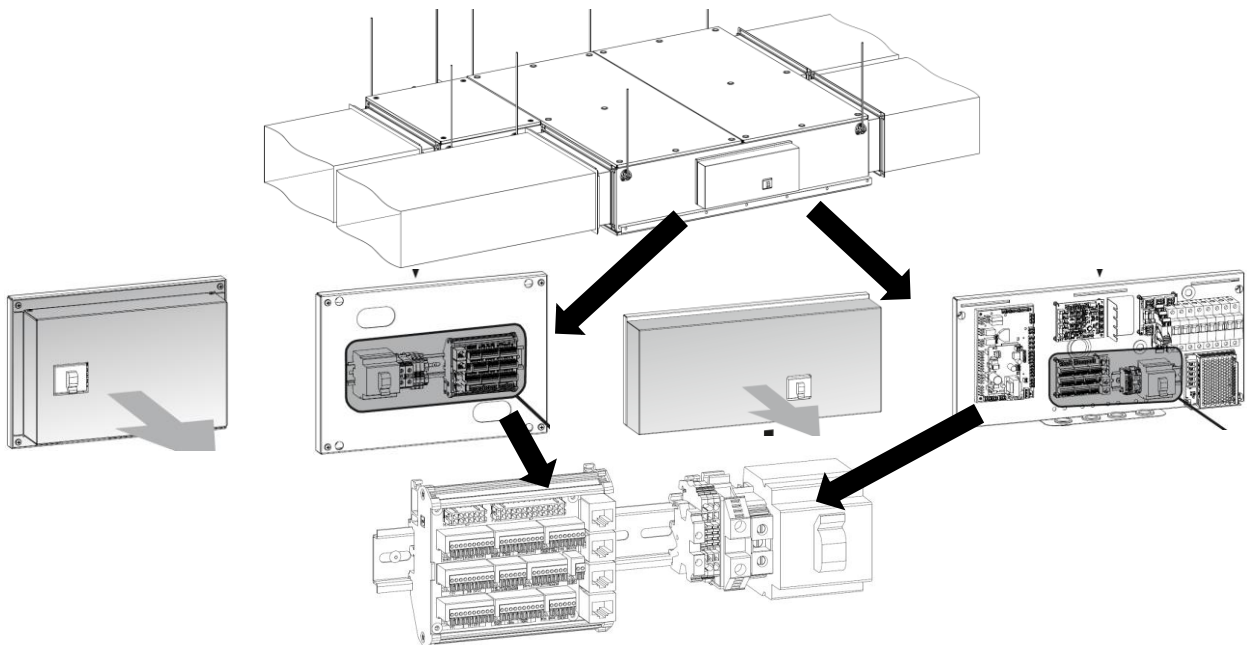

Figure 3 - VVSSs - location of the terminal box
The VVSSs Floor-mounted AHU may be factory-fitted indoor application only. Depending on the execution, location of the terminal-box may vary, as per below (Figure 3):
- Terminal box includes main switch, mains and controls terminals only. Main AHU controller installed inside the unit's body (Figure 3, left).
- Terminal box includes main switch, mains and controls terminals, main AHU controller, pressure transducers board, main circuits breakers and control circuits power supply. All integrated on one common board (Figure 3, right).